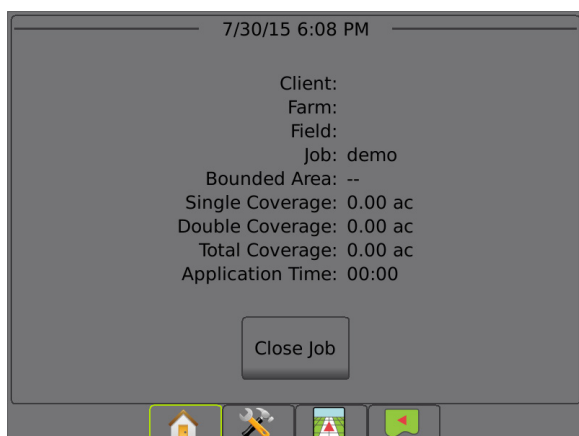

Figure 18 - Job home screen
1. Press the  button at the bottom of the screen. You will see the home screen shown in Figure 18.